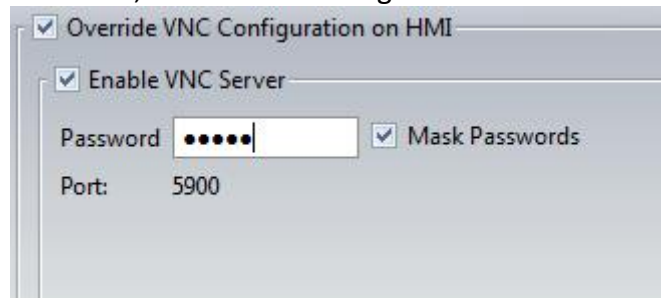

Figure 205 VNC Server Setting-Project
1. Create a new project and set the settings in the **【VNC】** tab page of the **【Server】** setting screen as shown in **Figure 205 VNC Server Setting-Project**.